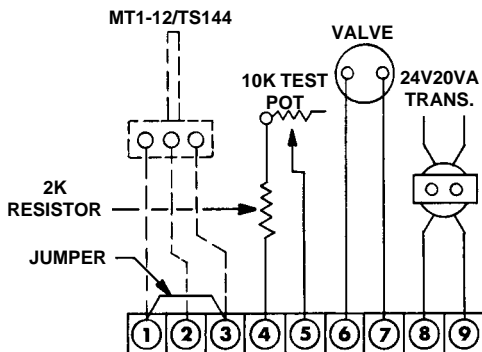

Figure 1
1. Wire the system (per Figure 1 below).
1. With proper voltages observed thus far and modulator responding correctly, wire the system (see Figure 1 below), except have TS144 connected in place of jumper. Set MIN temperature selector at least 10° F above outdoor temperature. Set MAX temperature selector at mid-range. Heater is now under control by the